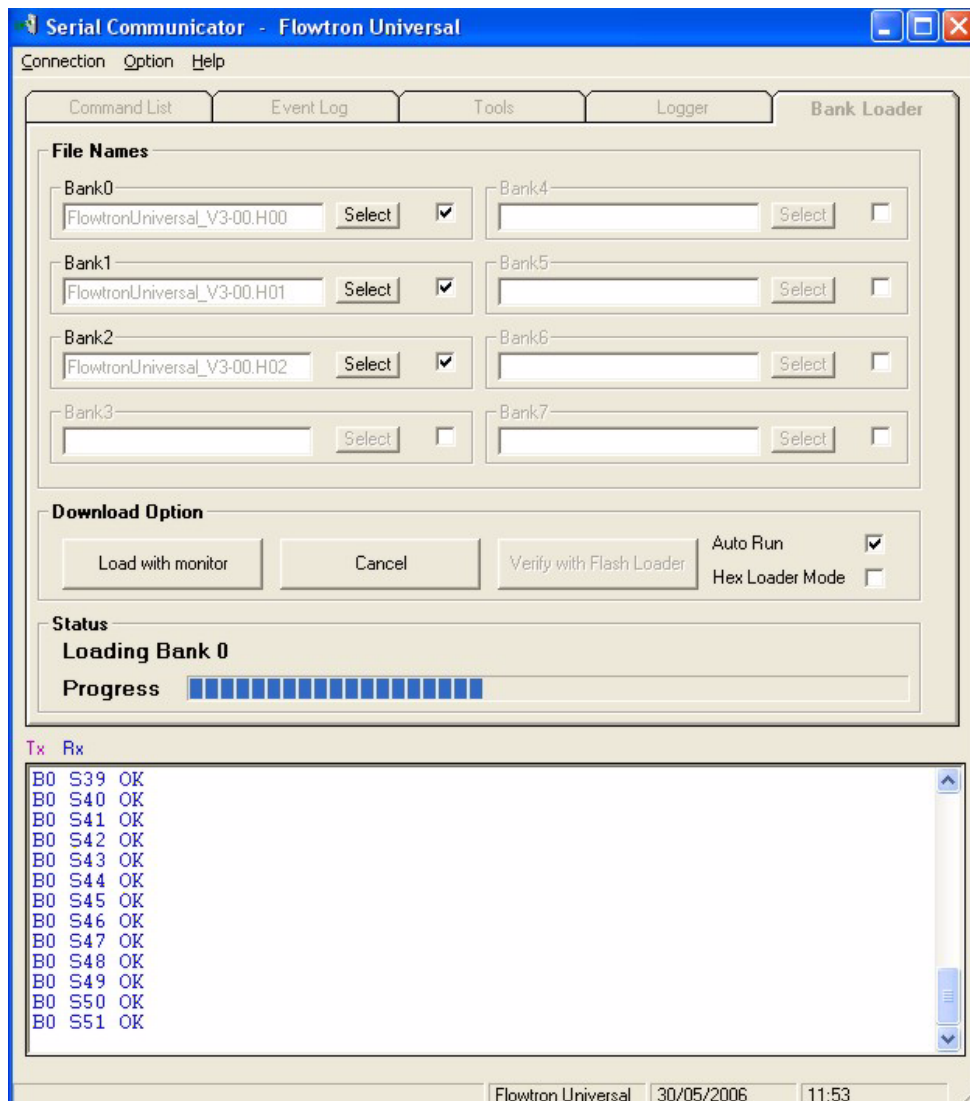

Figure 86 - Communicator Software - Downloading the Software
- 10.9 As the software is downloaded, the progress is shown in the dialog box, as follows (refer to Figure 86):